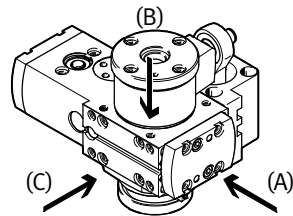

Fig. 5
Eccentric loads can destroy the bearing. Note that the front side (A) (→ Fig. 5) is approved only for attachment with a symmetric applied load.
- Fasten the EHMB to the threaded holes with 4 screws and 2 centring sleeves or with the aid of kits. Mounting to the sides (A), (B) and (C) is possible (→ Fig. 5). Tighten the mounting screws evenly. The tightening torque is summarised in the following table.